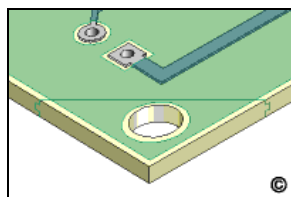

Figure 5: Complete by drilling holes or adding circuitry and coatings as needed.
15. Complete by drilling holes, slots, etc. or adding circuitry as required. (See Figure 5).
16. If needed, replace solder mask or coatings. (See Figure 5).